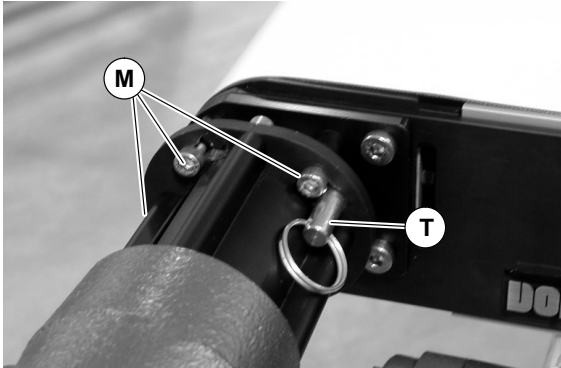

Figure 22
- a. Remove anti-rotation pin (T of Figure 22), loosen four (4) screws (M) and rotate and remove the side drive assembly.